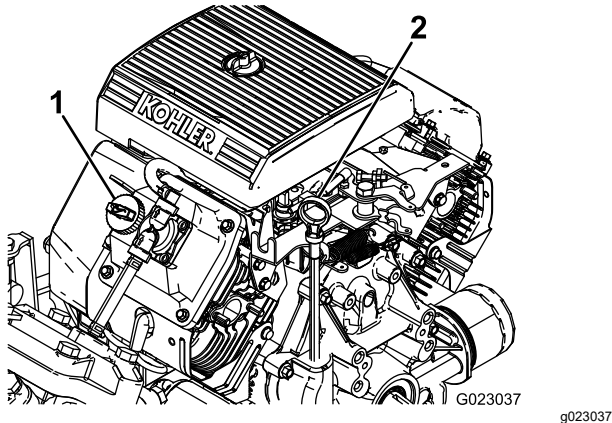

Figure 10
2. Remove the dipstick and wipe it with a clean rag (Figure 10).
4. If the oil level is low, remove the filler cap from the valve cover (Figure 10) and pour oil into the opening until the oil level is up to the FULL mark on the dipstick; refer to Servicing the Engine Oil (page 47) for the proper oil type and viscosity.